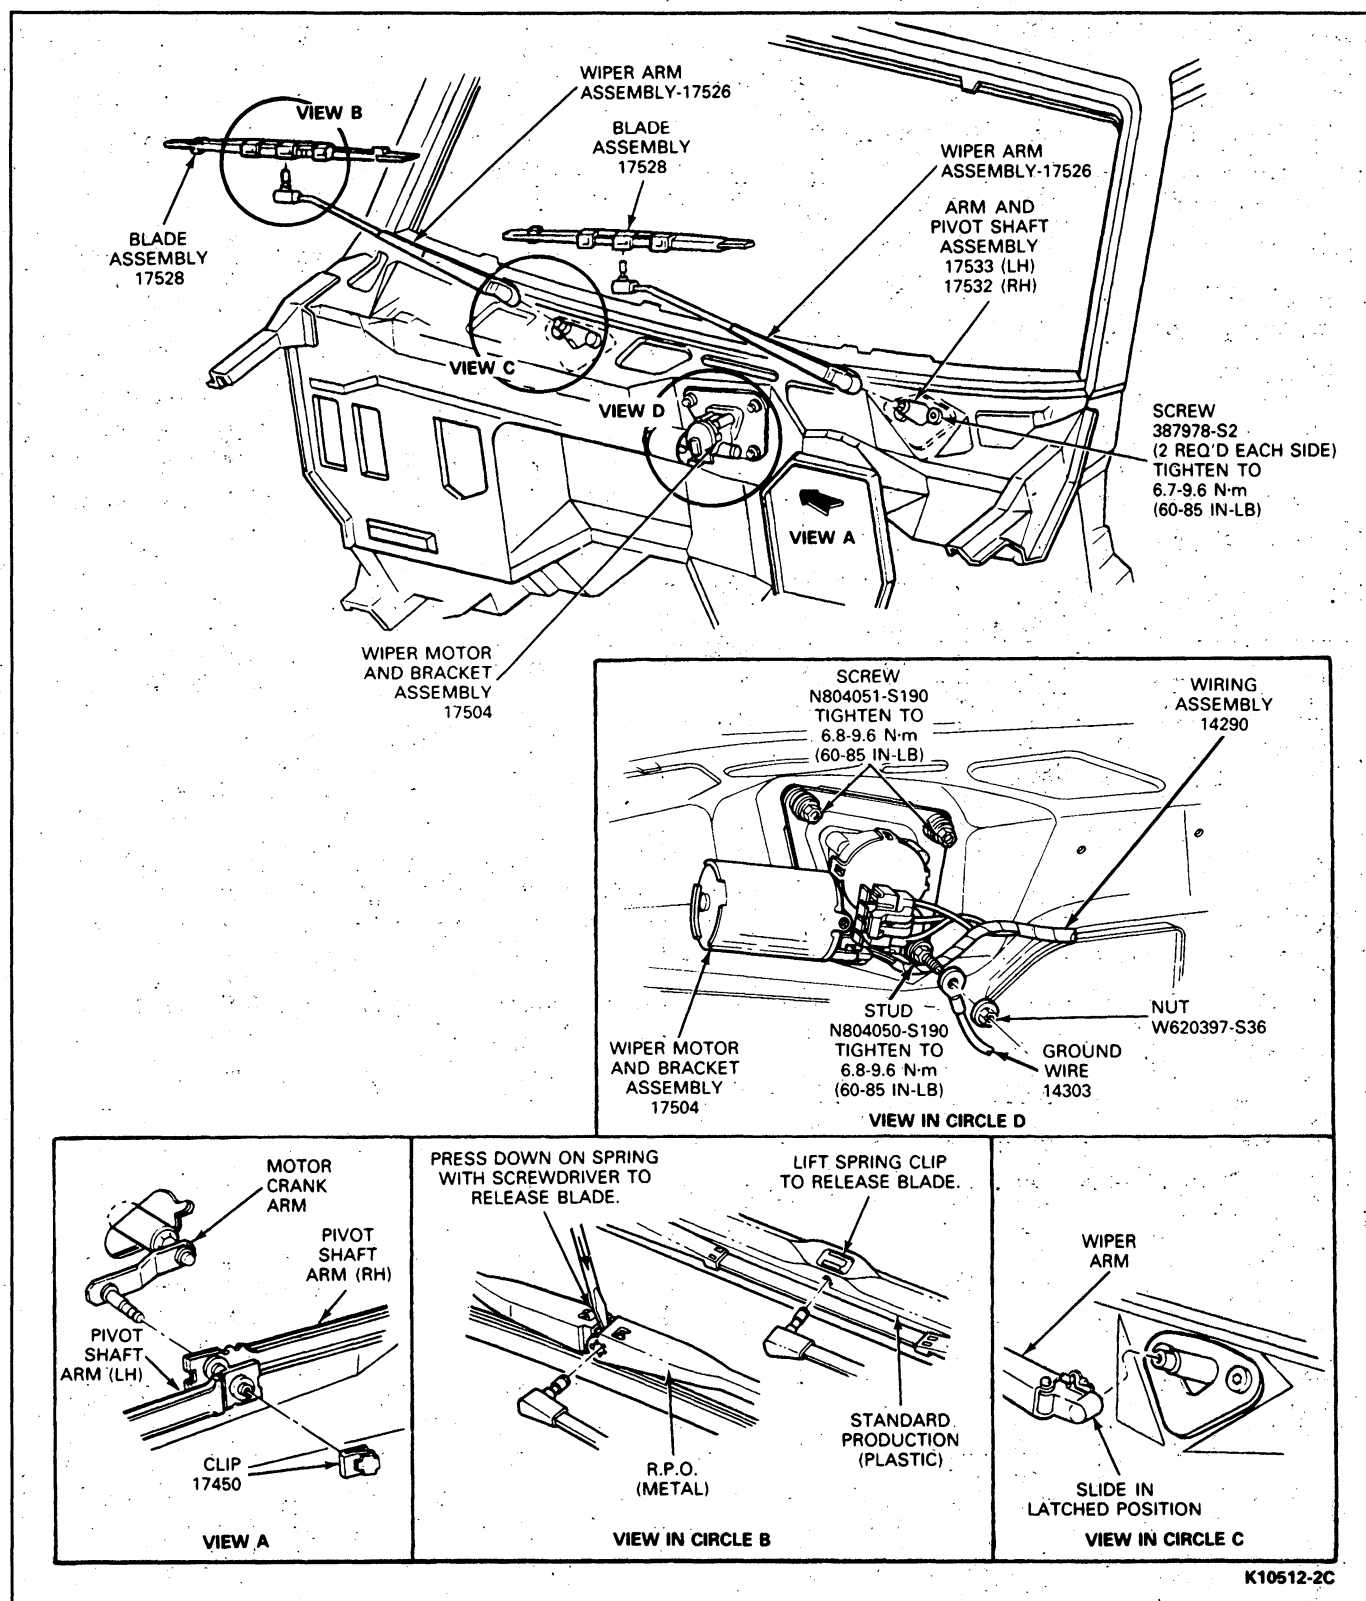

FIG. 12 Windshield Wiper Motor Installation—F-150—F-350, F-Super Duty and Bronco
2. Remove both wiper arm and blade assemblies (Fig. 12).
1. Install the motor and attach the three attaching screws (Fig. 12). Tighten to 6.7-9.5 N·m (60-85 in-lb).